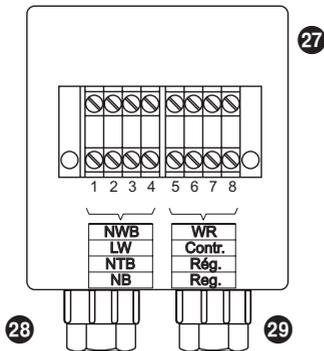

Fig. 9
2. Pull the cables for connecting the electrode tip for low water LW and the three radial electrode tips 6, 7 and 8 through the associated cable glands. **Fig. 9**